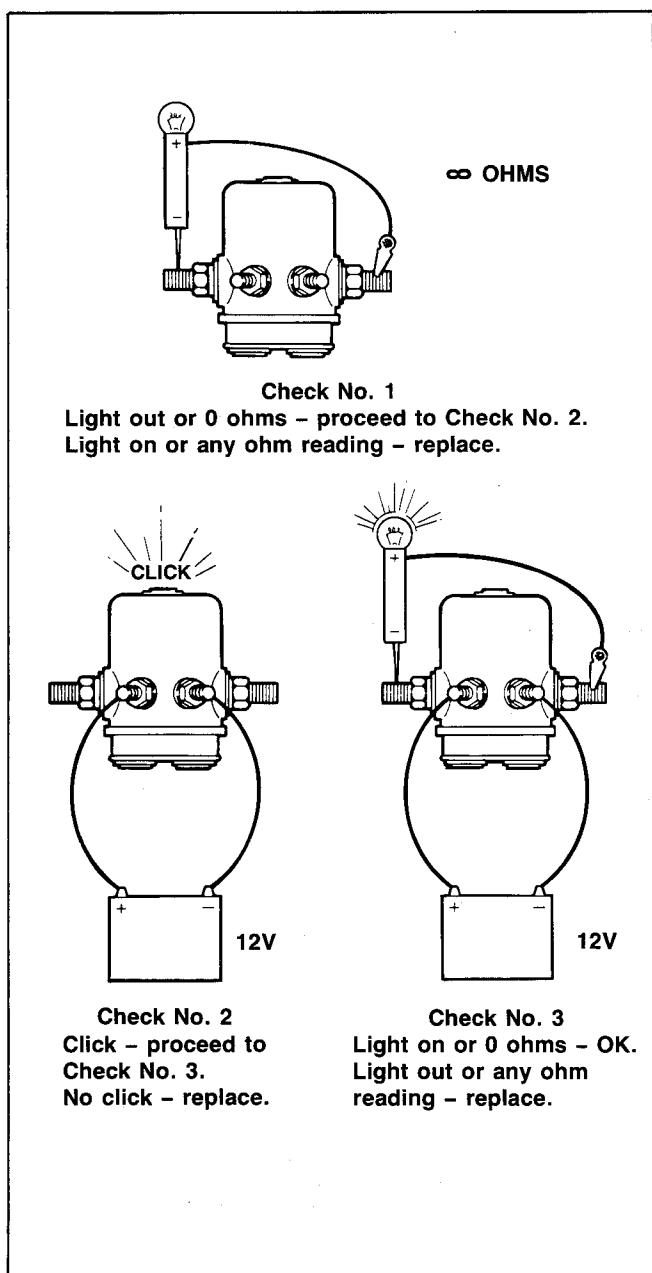

Figure 83 - 3-Step Solenoid Test
38. SOLENOID TESTING (Figure 83)